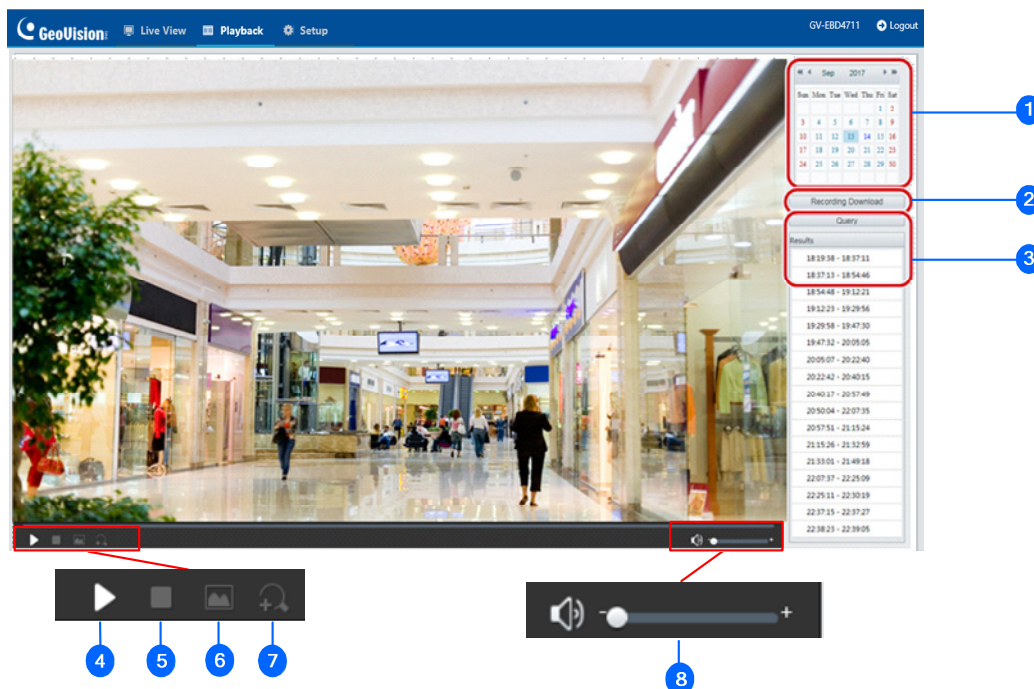

Figure 2-8
1. Click **Recording Download** (No. 2, Figure 2-8) on the right of the Playback window.